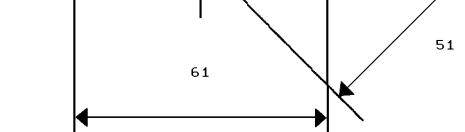

Fig. 3: FC420CP-I Fixing Dimensions Surface Mount Backbox
- 1 Connection to the FC420CP-I is made via the 4 way terminal connector as shown in Fig. 3, ensuring correct polarity. Each terminal can accommodate a conductor of up to 2.5 mm².
ter box (25 mm) with KAC backbox. (See Fig 3 for overall dimensions).